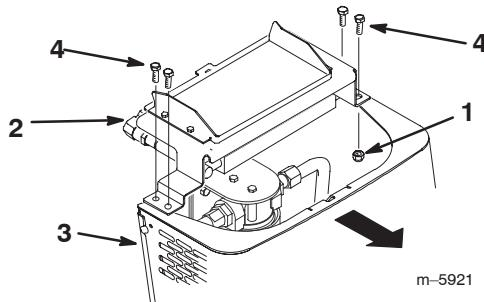

Figure 22
6. Remove the shoulder bolts and nuts securing the oil cooler to the top of the front screen (Fig. 22).